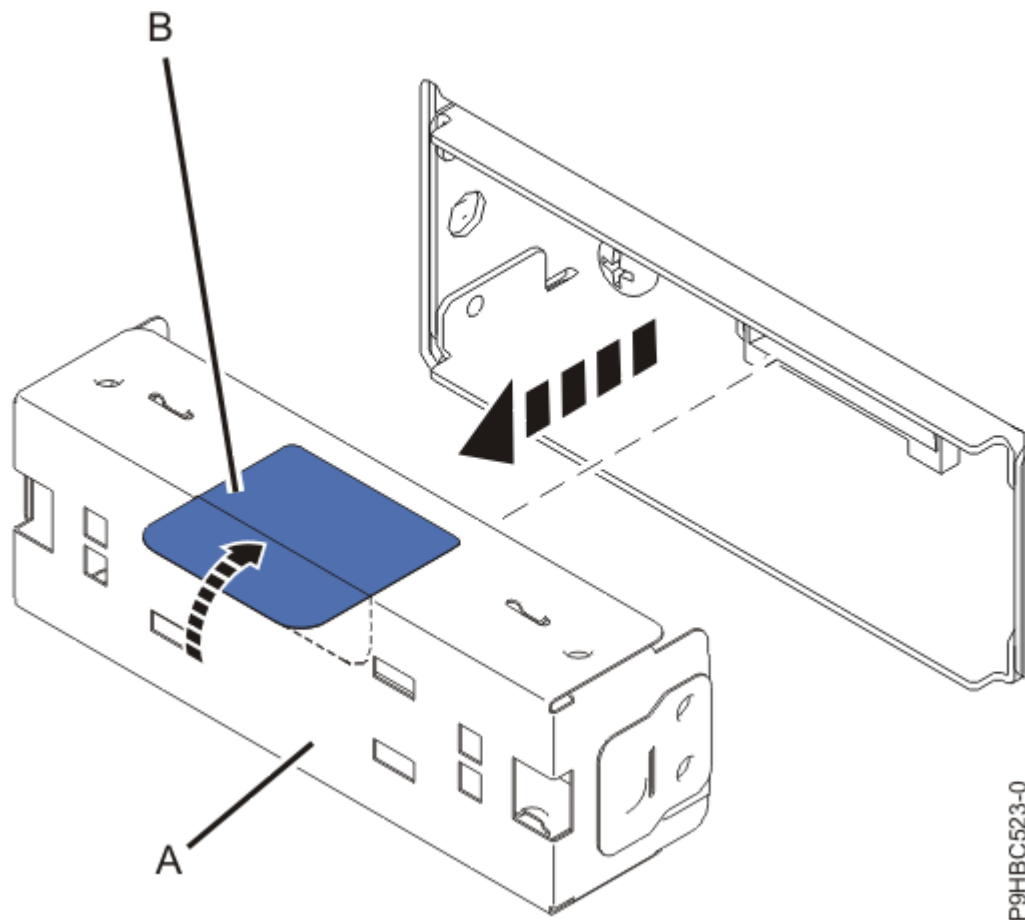

Figure 22. Removing a display filler
2. If needed, remove the display filler **(A)** using tab **(B)** as shown in Figure 22 on page 24.